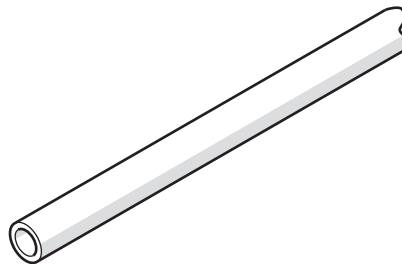

Fig. 2.1
- 2 Fig. 2.1 shows part of a length of Ø20 aluminium tube that will be cut into 50 mm long pieces.